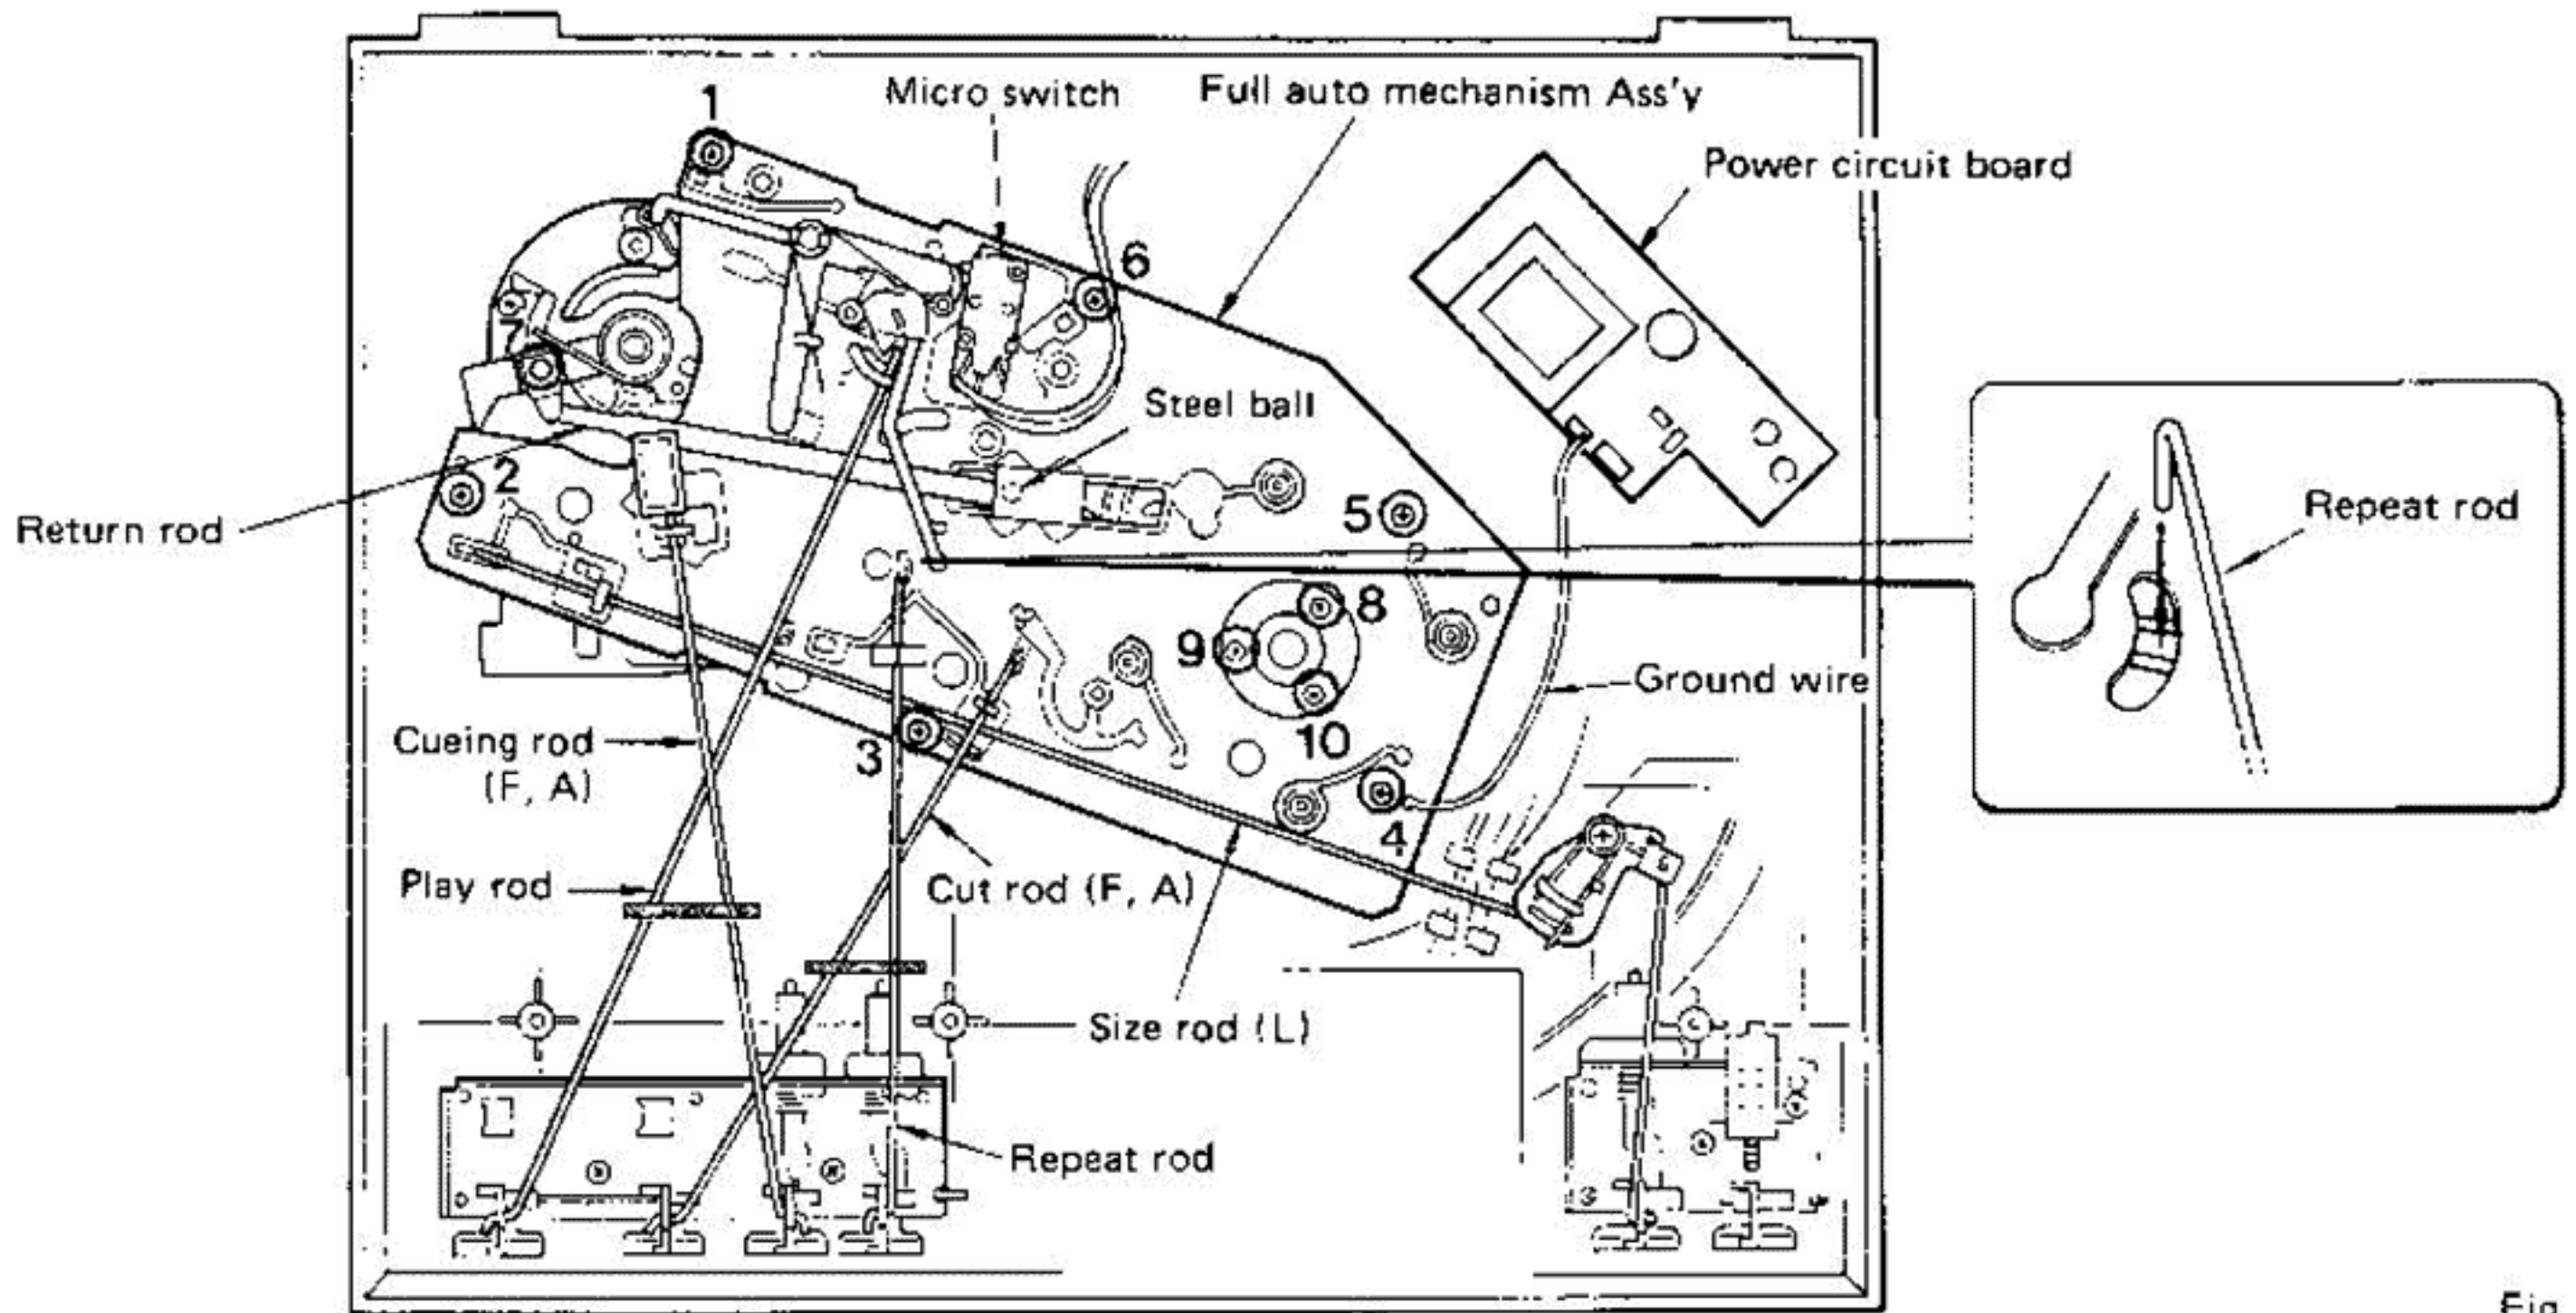

Fig. 3
- h. Remove plastic rivet ⑦ in fig. 3 and then remove the return rod.
- i. Remove the main shaft Ass'y by removing screws ⑧ through ⑩ in fig. 3.
- j. Remove screws ① through ⑥ in fig. 3 and then remove the full auto mechanism Ass'y. (Refer to "MECHANICAL DESCRIPTION" for the details.)